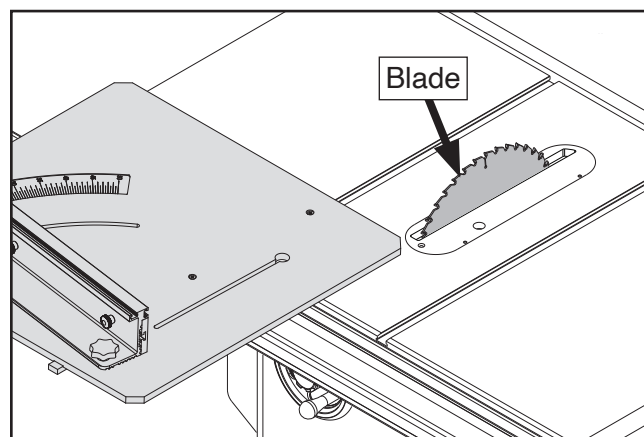

Figure 10. Checking blade clearance.
14. Adjust (8) slotted set screws in **Step 4** until miter bar will move snugly and smoothly through miter slot, without wobbling side-to-side.
15. Slide sled backward in table saw T-slot until blade opening is clear (see **Figure 10**).
16. Raise table saw blade all the way (see **Figure 10**).